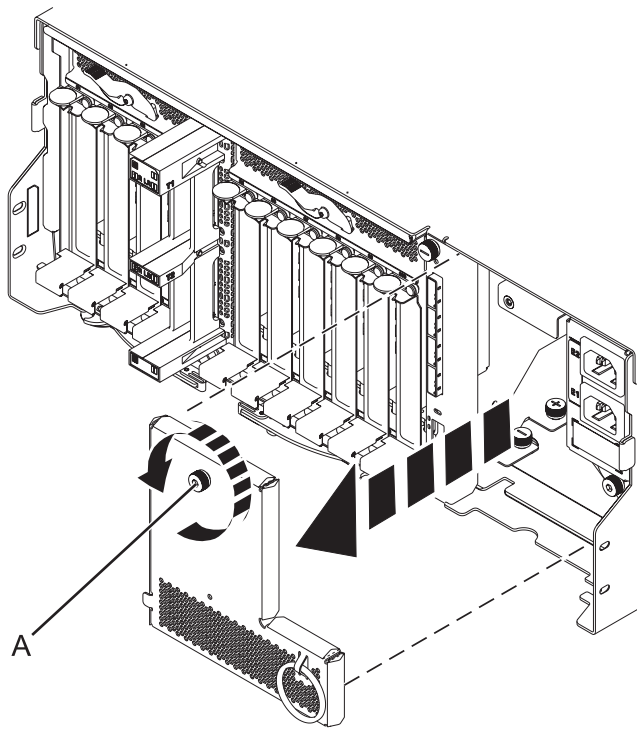

Figure 87. Removing the power cord plate
10. Remove the power cord plate by turning the thumbscrew (A) and pulling the plate away from the system, as shown in Figure 87.